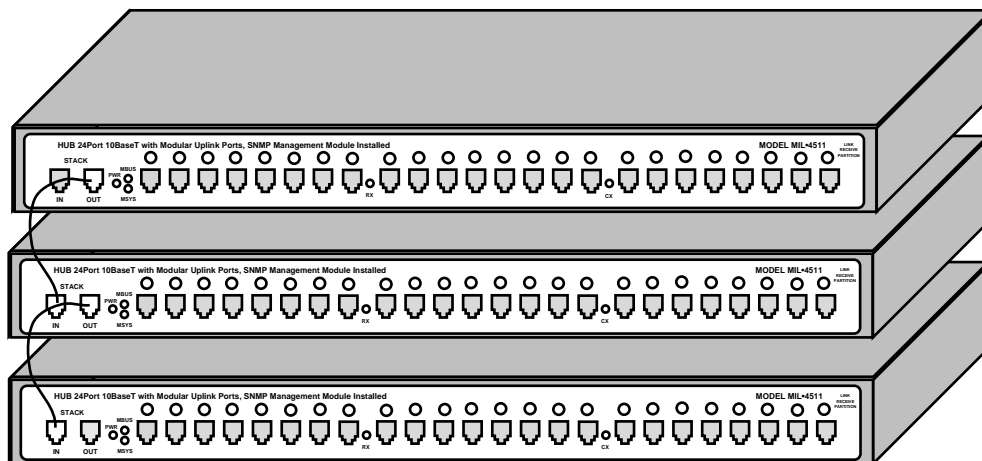

Figure 3. Stacking Multiple Hubs
3. On the first 4511H hub, connect another cable in the “Stack/Out” port to the “Stack/In” port on the next MIL-4511H (see Figure 3).